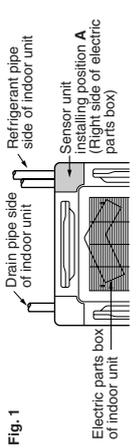

Fig. 1
\* The positions where the sensors can be installed are limited to the corners (A) in Fig. 1. Therefore, for installation of the sensor units, consider the direction when a panel is installed to the indoor unit.